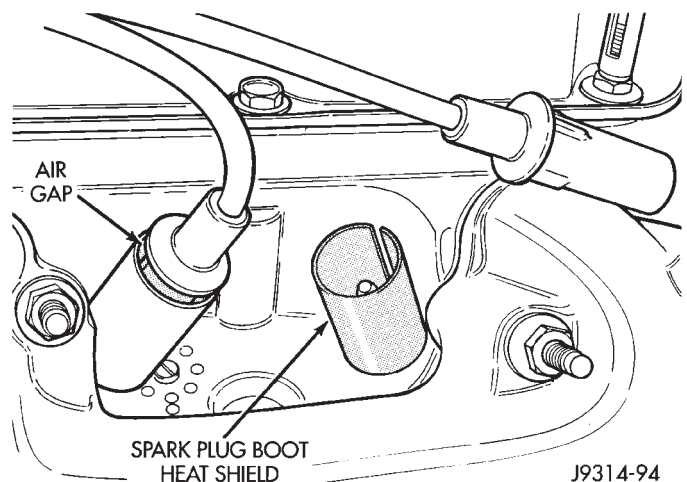

Fig. 33 Heat Shields—5.2L Engine
5.2L ENGINE. Spark plug cable heat shields are pressed into the cylinder head to surround each cable boot and spark plug (Fig. 33). These shields protect the spark plug boots from damage (due to intense engine heat generated by the exhaust manifolds) and should not be removed. After the spark plug cable has been installed, the lip of the cable boot should have a small air gap to the top of the heat shield (Fig. 33).